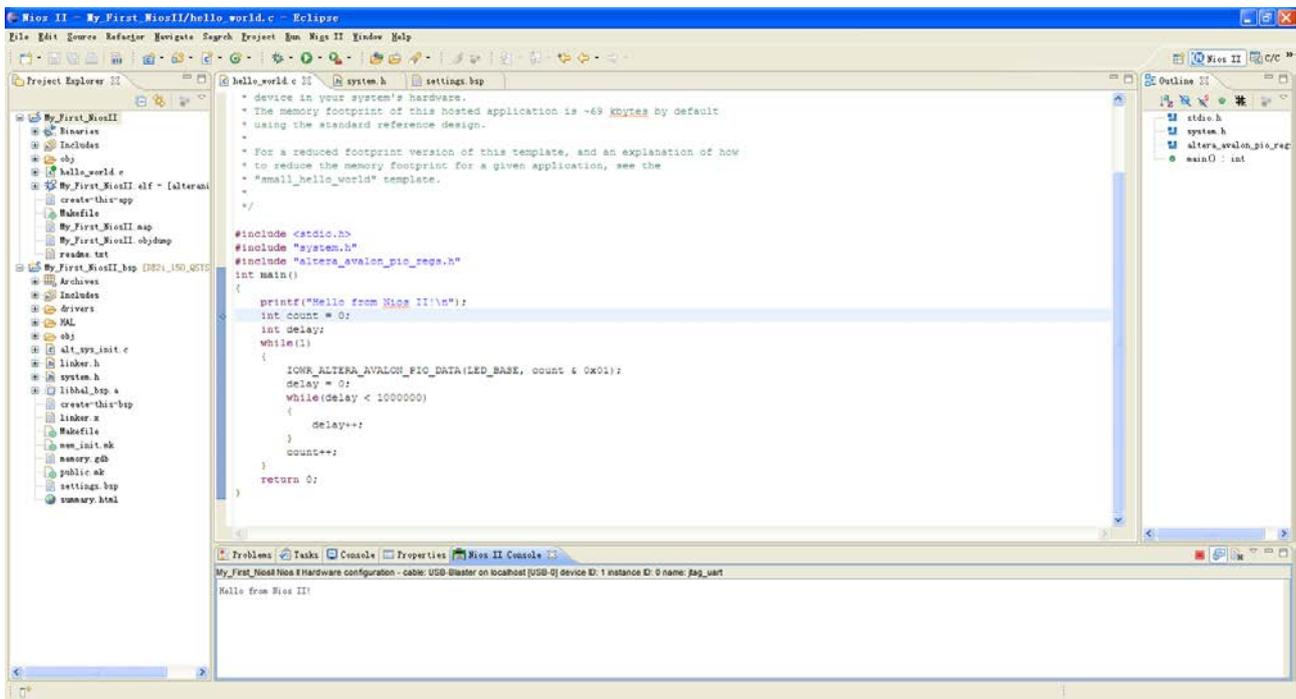

Figure 2-8 Set Breakpoint
1. In the **hello_world.c**, double-click the front of the line which is needed to set breakpoint. See Figure 2-8.